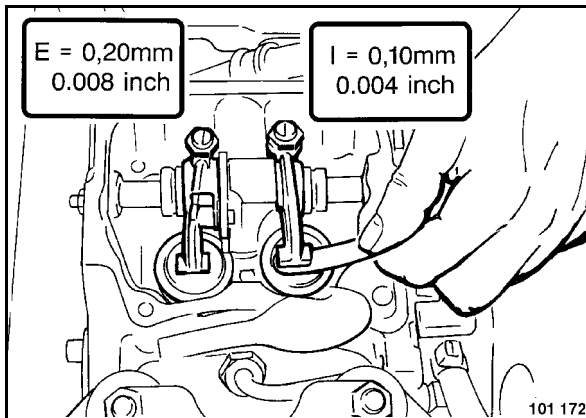

Fig. 58
- Check the valve clearance with a feeler gauge on both valves (Fig. 58).